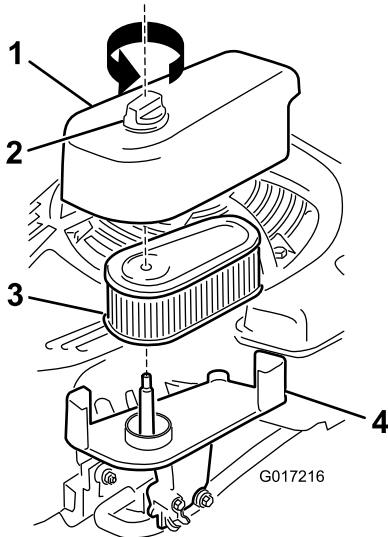

Figure 32
1. Loosen the fastener and remove the air-filter cover (Figure 32).